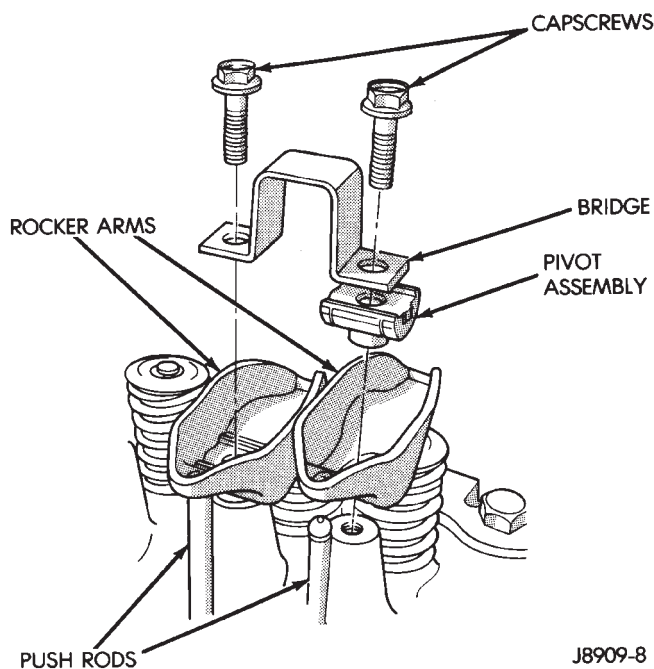

Fig. 33 Rocker Arm Assembly
- (1) Remove the engine cylinder head cover.
- (2) Check for rocker arm bridges which are causing misalignment of the rocker arm to valve tip area.
- (3) Remove the capscrews at each bridge and pivot assembly (Fig. 33). Alternately loosen the capscrews one turn at a time to avoid damaging the bridges.
- (4) Remove the bridges, pivots and corresponding pairs of rocker arms (Fig. 33). Place them on a bench in the same order as removed.
- (5) Remove the push rods and place them on a bench in the same order as removed.